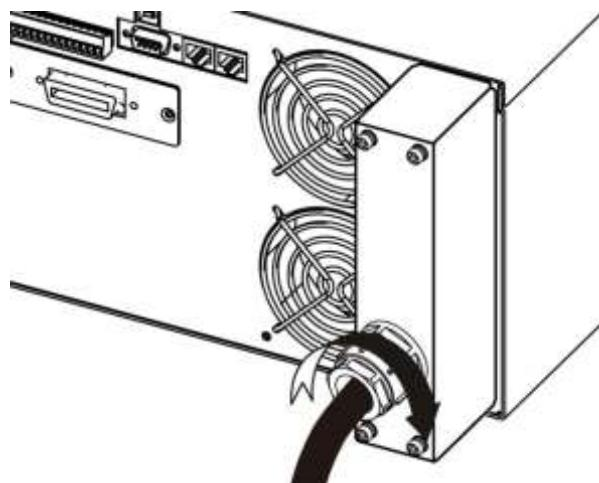

Figure 2-8 Assembling 62050P Inputer Terminal Safety Cover - 4
- d. At last secure the anti-pull device as Figure 2-8 shows.